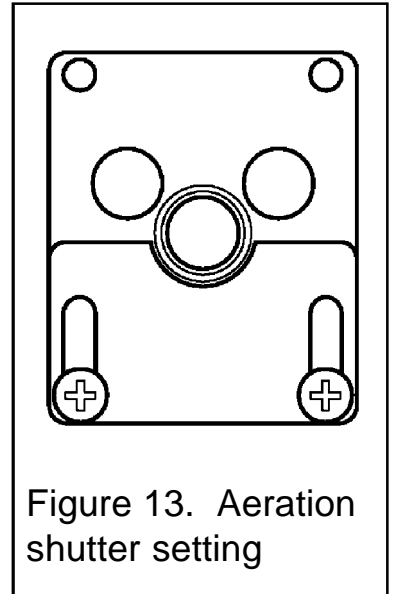

Figure 13. Aeration shutter setting
1. The aeration shutter is factory set. It is important to ensure that the aeration setting is correct. Check the aeration shutter setting (See figure 13).
2. To adjust the aeration setting, loosen the two aeration shutter screws, slide the aeration shutter to the position shown in figure 13 and tighten the fixing screws.